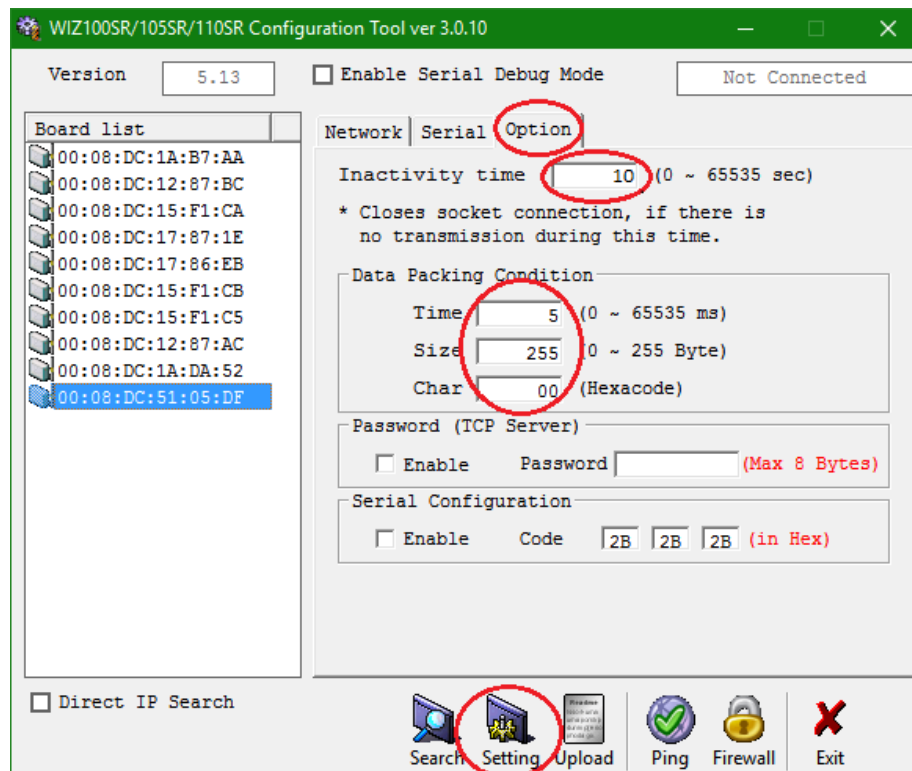

Figure 13
- See Figure 13 below:
9. Once all the changes have been made, click on the **Setting** icon to save the configuration settings. See Figure 13 above.